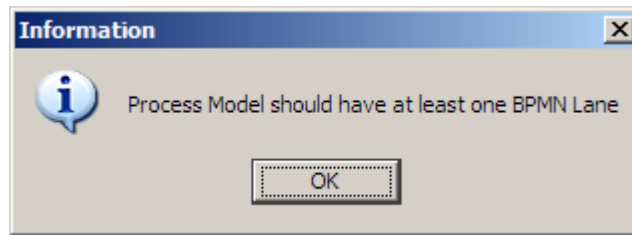

Figure 34: Delete Alert
2. If there are more than one swim lanes in the Pool, then the selected swim lane and all associated activities within that swim lane get deleted else the following screen is displayed (see Figure 34).